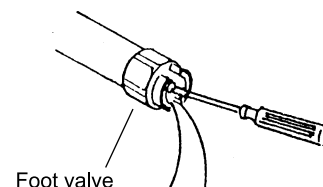

Fig. 7
- 4) The oil can be drained by pushing open the foot valve section inside, using a screwdriver, etc. (Fig. 7)